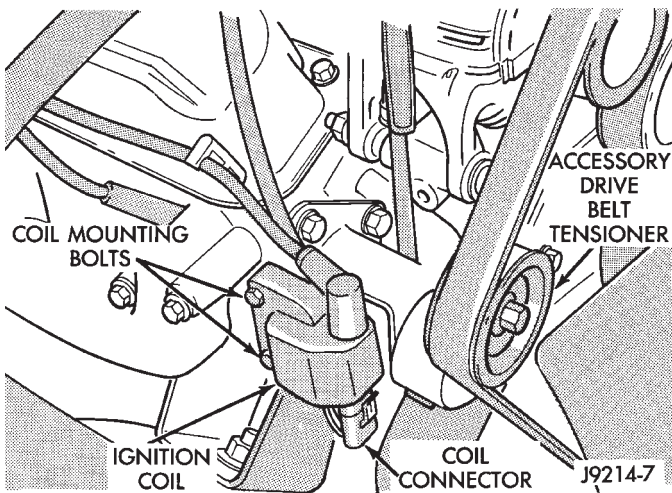

Fig. 24 Ignition Coil—5.2L Engine
(4) Inspect ignition coil connections. Verify that coil secondary cable is firmly connected to coil (Fig. 24).
(5) Verify that distributor cap is correctly attached to distributor. Be sure that spark plug cables are firmly connected to the distributor cap and the spark plugs are in their correct firing order. Be sure that coil cable is firmly connected to distributor cap and coil. Be sure that camshaft position sensor wire connector (at the distributor) is firmly connected to harness connector. Inspect spark plug condition. Refer to Group 8D, Ignition. Connect vehicle to an oscilloscope and inspect spark events for fouled or damaged spark plugs or cables.
(6) Verify that generator output wire, generator connector and ground wire are firmly connected to the generator.
(7) Inspect the system body grounds for loose or dirty connections. Refer to Group 8, Wiring for ground locations.